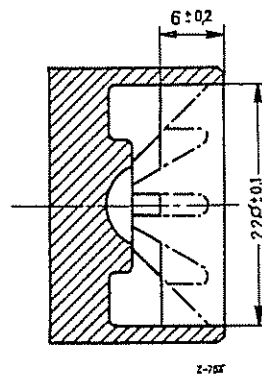

Fig. 42-6/2
For subsequent installation the spring-loaded pins are supplied together with the appropriate brake cylinder pistons $1\frac{5}{16}$ " ϕ with Part No. 180 420 00 74. If older cars are fitted with wheel brake cylinders with a piston diameter of 1", the pistons must be re-machined as shown in Fig. 42-6/2.
- a) When installing the spring-loaded pins, pay attention to the required number and the correct positioning of the cup springs. Mount 4 cup springs on each spring-loaded pin in such a way that one pair of cup springs is supported by the other pair, so that the desired spring action is obtained (see Fig. 42-6/1).